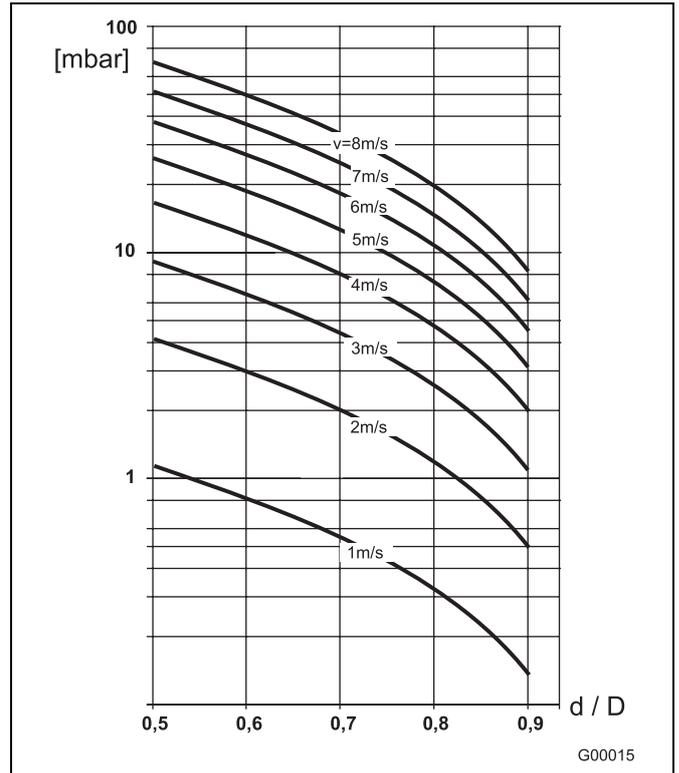

Fig. 19
2. Determine the flow velocity from the flow range nomograph (Fig. 19).
3. Read the pressure drop on the Y-axis in Fig. 19.